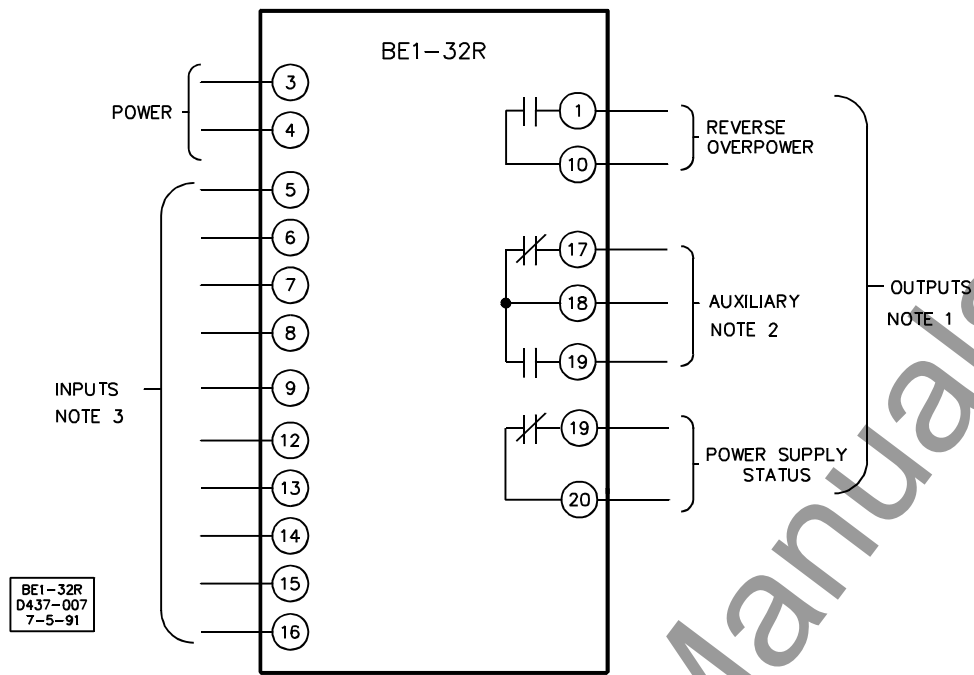

Figure 4-22. BE1-32R Typical External Connections
- Typical external connections are shown in Figures 4-22 and 4-23.